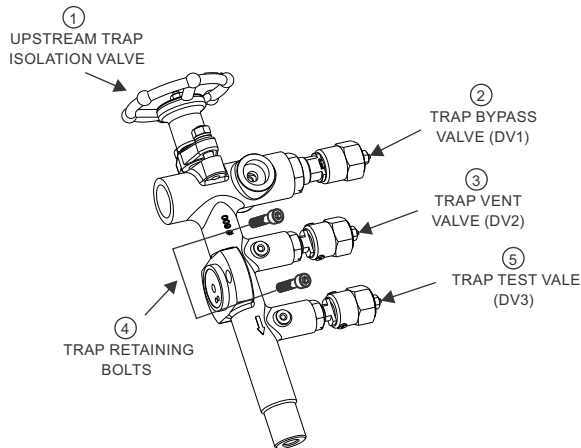

Figure 7. Steam trap fitment on FMPC53
7.12.2. To remove / replace a steam trap fitted to Forbes Marshall Pipeline Connector [FMPC53] : (Refer figure 7)